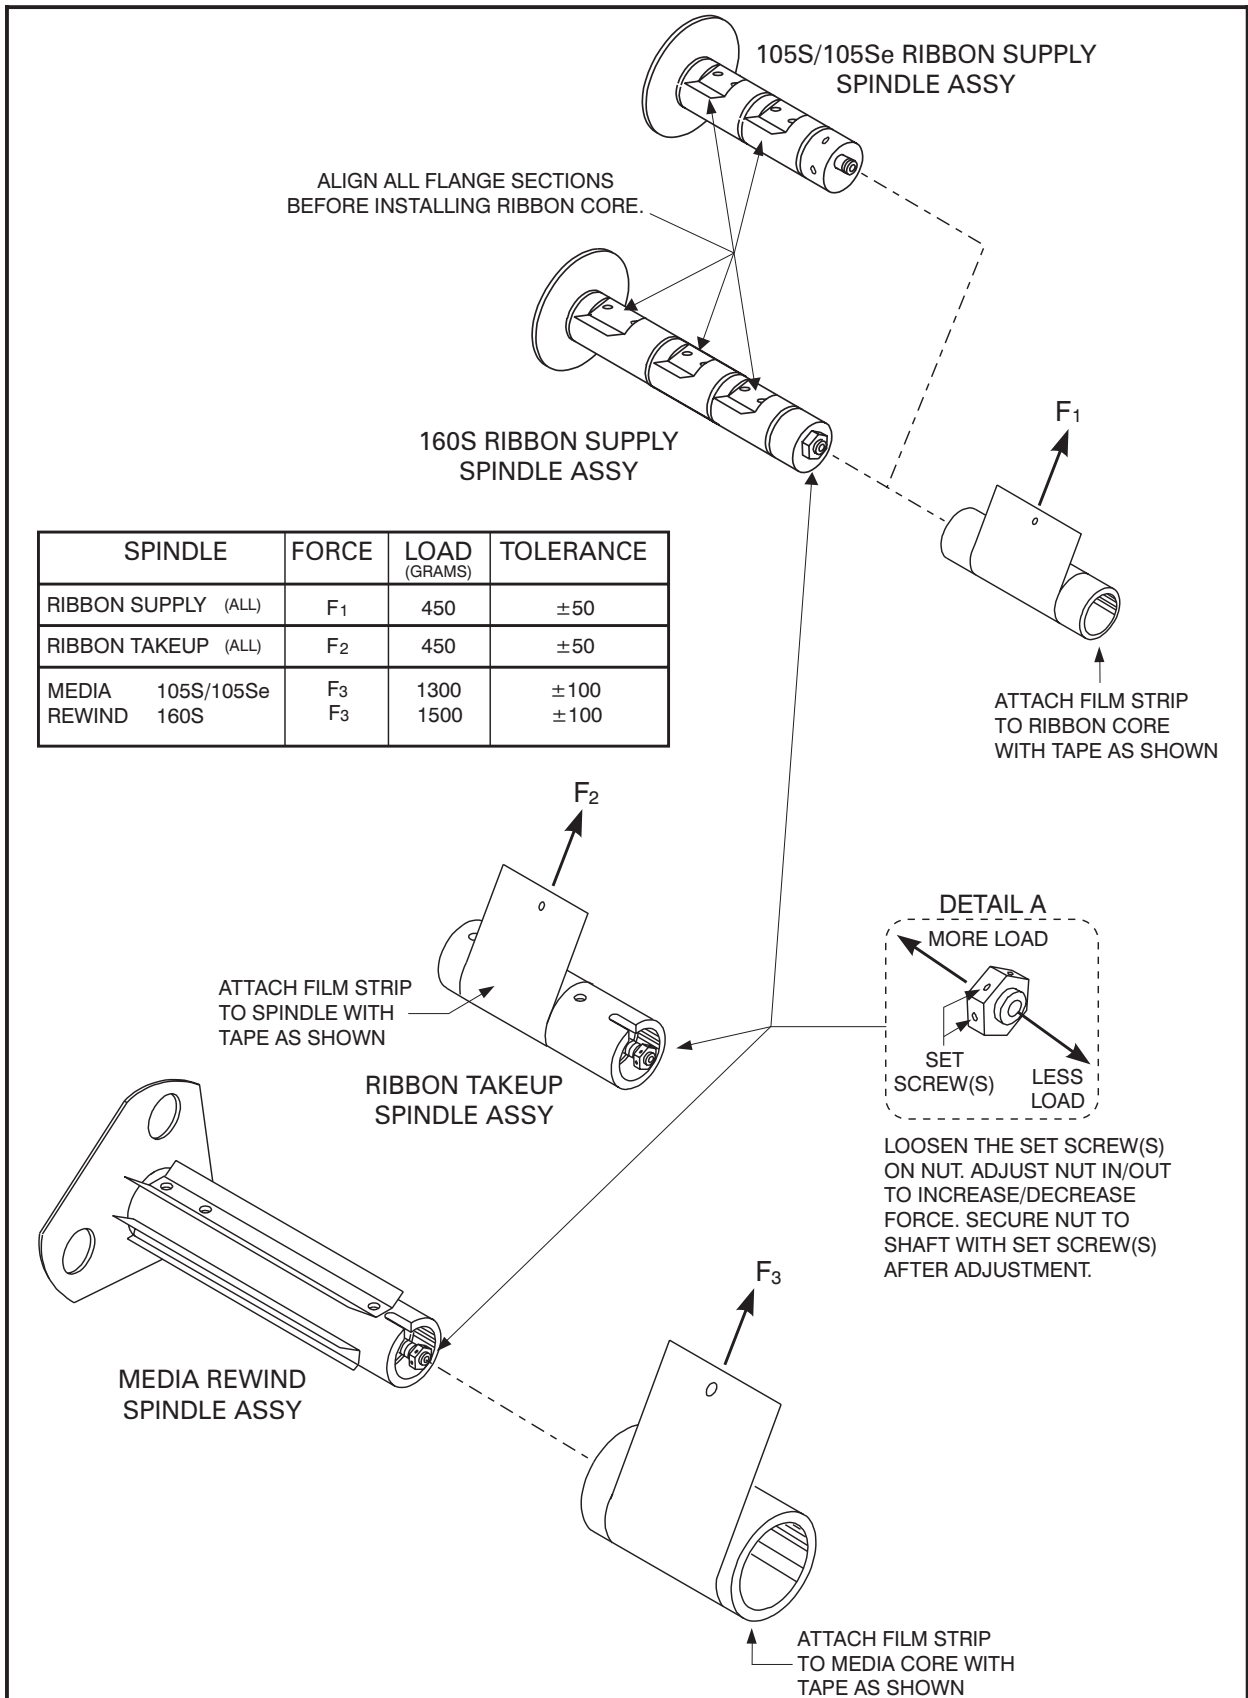

Figure 5.13 Spindle Tension Adjustments
The procedure for measuring spindle tension is similar for all three spindles. Refer to the Spindle Tension Adjustment Diagram in Figure 5.13 for specific requirements.
1. Use adhesive tape to attach a 2" wide strip of polyester film (Part # 01776) to the Spindle Shaft (or Core where required) as illustrated in Figure 5.13. Wind the polyester film around the Spindle (or Core) about 5 times in the direction indicated.
3. Compare the Spring Scale reading with the load values provided in Figure 5.13. Perform the Spindle Tension Adjustment only if the reading is out of spec.
Refer to the Spindle Tension Adjustment Diagram in Figure 5.13 and adjust the Spindle Tension as follows:
3. Use adhesive tape to attach a 2" wide strip of polyester film (Part # 01776) to the Spindle Shaft (or Core where required) as illustrated in Figure 5.13. Wind the polyester film around the Spindle (or Core) about 5 times in the direction indicated.
5. Compare the tension reading on the Spring Scale with the appropriate load values provided in Figure 5.13. Repeat steps 1 through 4 until the correct tension is obtained.